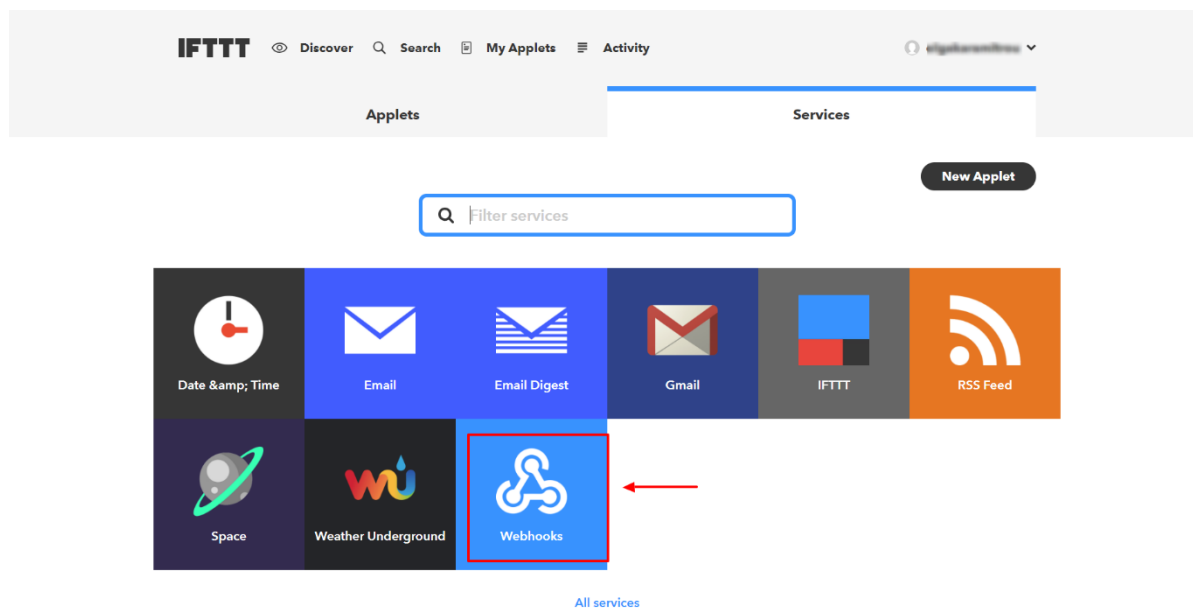

Figure 84: IFTTT Web Hook Key, step 1
1. To find your key, go to **'My Applets'**, click **'Services'** tab and then click **Webhooks** (Figure 84).